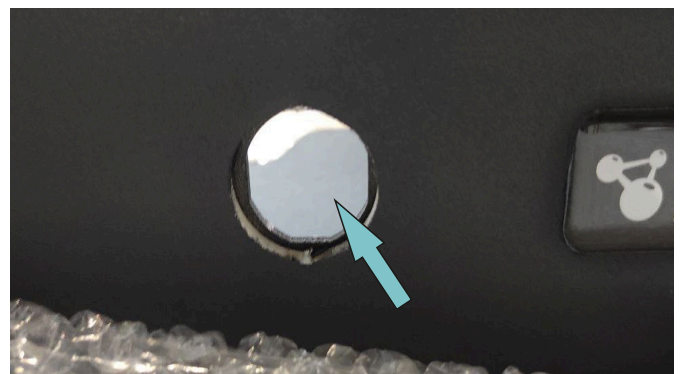

Fig. 18
18. Locate knock-outs for parking sensors on the bumper body (item1) and knock them out by a hammer (Fig.18).